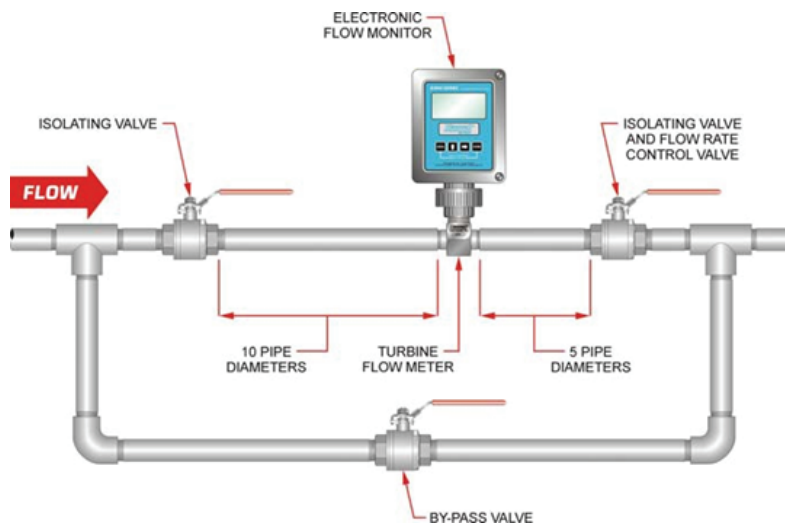
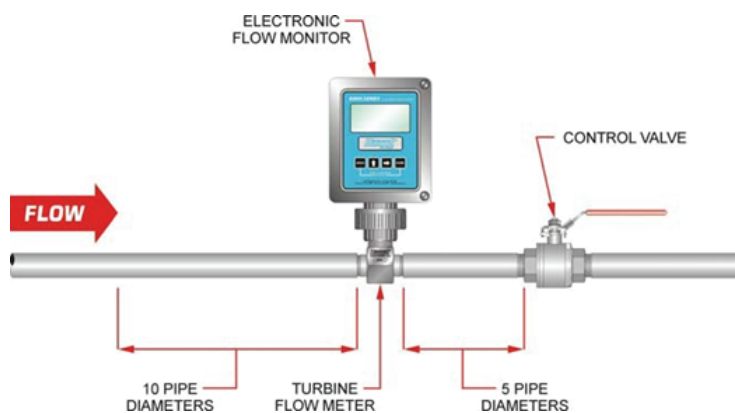

Figure 2: Meter installation using a bypass line
Figure 3: Meter installation without using a bypass line
6. Install a bypass line (*Figure 2*) for meter inspection and repair without interrupting flow. Install all control valves downstream of the flow meter, if a bypass line cannot be used (*Figure 3*).